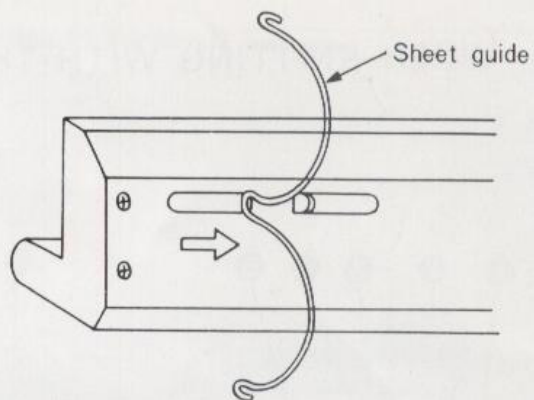

Fig. 5
- (3) Insert the Sheet guides (one each at right and left) to the back of the Knit-Leader. (Fig. 5)